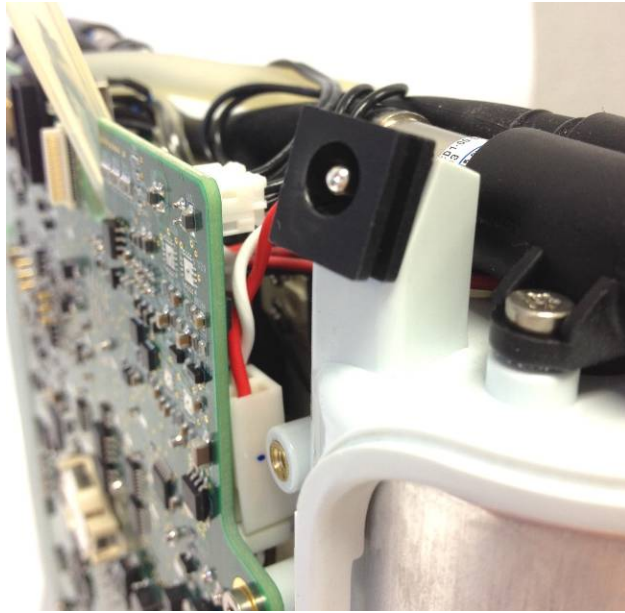

Figure 10: Properly installed power cable
2. Install the new power cable by connecting it to the motherboard and aligning the power plug in its designated position on the chassis (Figure 10).